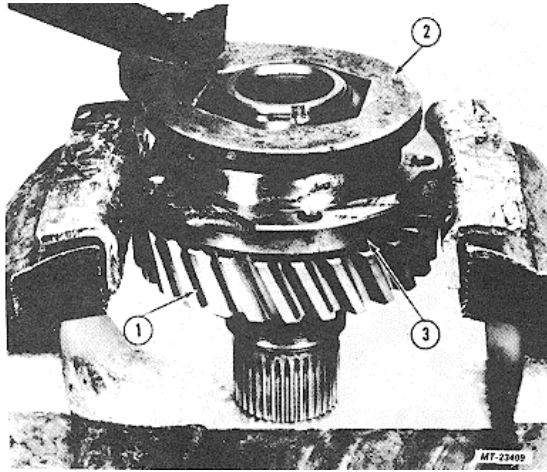

Fig. 12. Removing Input Gear Bearing Retainer Nut (RA-351, 35 Shown - RA-341 Similar)
- d. Remove bearing retainer nut using bearing nut wrench (SE 2247). See Fig. 12.